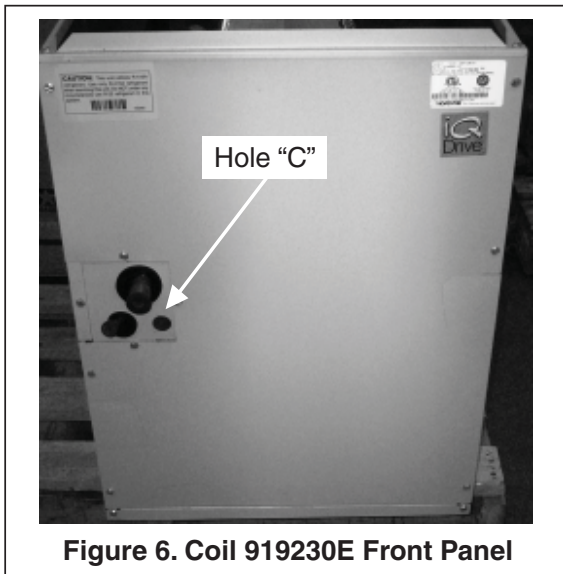

Figure 6. Coil 919230E Front Panel
- a. Route the following cables from the coil compartment out hole "C" shown in Figure 6. Cut wire ties to allow extension of the cables. A flexible black plastic sheath (split harness wrap) is provided for bundling and routing all of the following cables together: